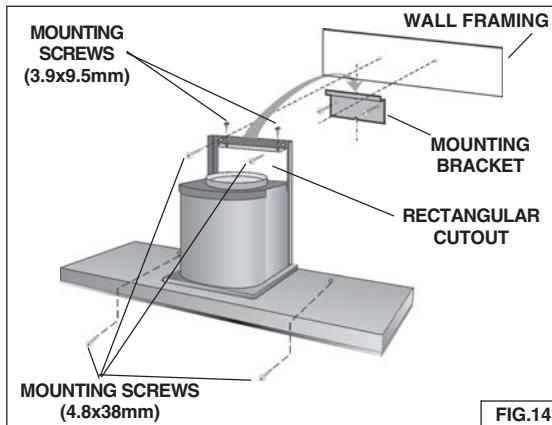

FIG.14
2. Align the rectangular opening on the back of the hood with the wall-mounting bracket. Gently lower the hood until it securely engages the bracket. Fig. 14.
3. Level the hood with (2) 3.9x9.5mm mounting screws and secure with (4) 4.8x38mm mounting screws. Use drywall anchors provided if wall studs or framing are not available. Fig. 14.